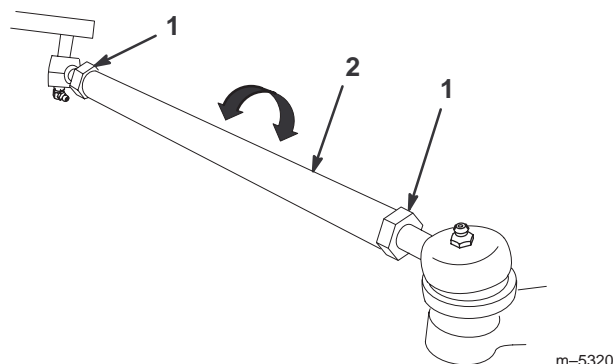

Figure 26
3. If the measurement does not fall within the specified range (refer to the dimensions and parameters at the beginning of this procedure), loosen the jam nuts at both ends of the tie rods (Fig. 26).